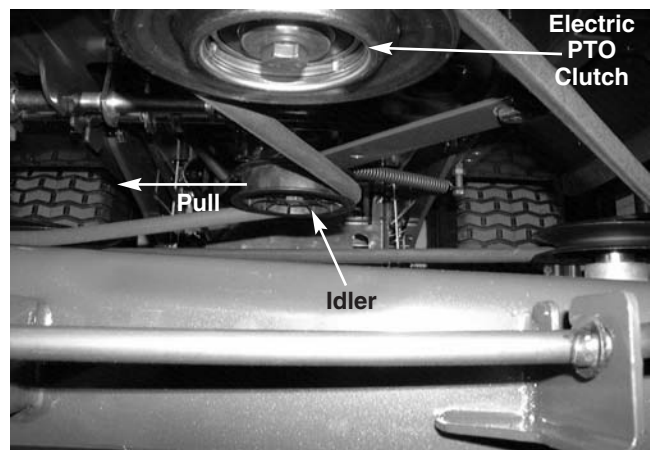

FIGURE 1.
- 2). Pull the PTO idler pulley and bracket towards the side discharge chute. See figure 1.